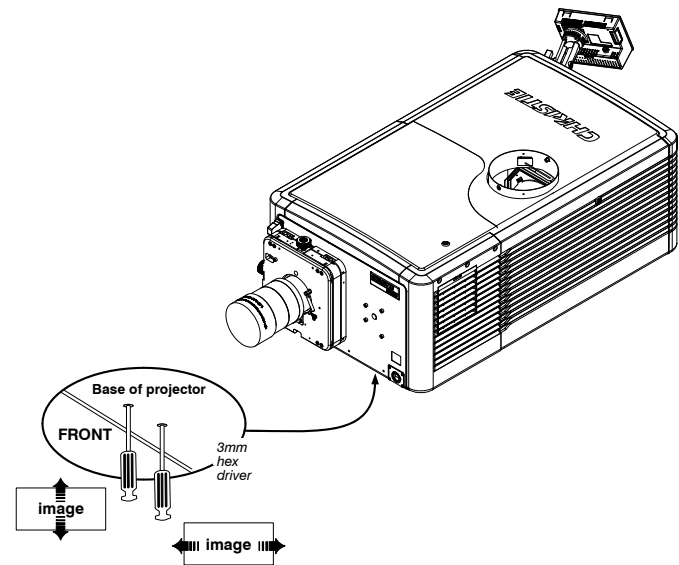

Figure 3-1 Fold Mirror Alignment
1. Adjust the two screws located on the base of the projector. (**Figure 3-1**)